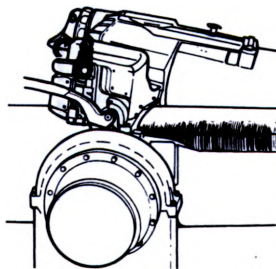

Figure 7.
- b. Raise the arming lever (fig. 7).